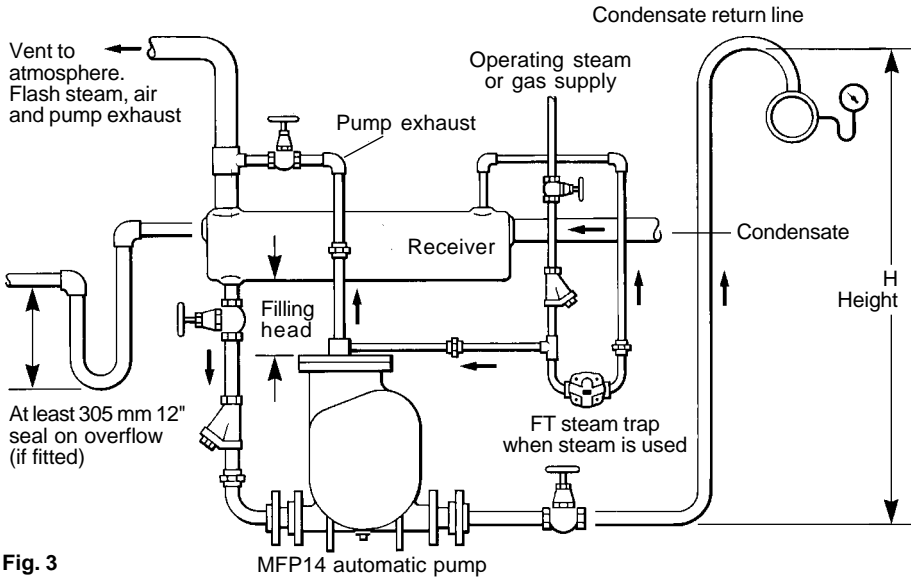

Fig. 3
1. Install the pump below the equipment to be drained with the exhaust connection vertically upwards. Pump should be installed with the recommended filling head (the vertical distance between the top of the pump and the bottom of the reservoir/receiver) as shown in Fig. 3. For other filling head variations, refer to separate capacity chart.
2. To prevent equipment flooding during the pump discharge stroke, a vented receiver or reservoir pipe should be installed in a horizontal plane ahead of the pump as shown in Fig. 3. For proper receiver/reservoir sizing, refer to 'Inlet receiver capacities' table shown on page 7. All inlet line fittings must be full bore.
3. Connect the check valves (12) and (12a) to the pump making sure that the flow through the valves is in the correct direction. For best performance, horizontal piping runs immediately ahead of the inlet check valve and after the discharge check valve should be kept to a minimum. Connect the discharge to the return main or other return point. Torque tighten inlet and outlet flange bolts to 76 - 84 N m (56 - 62 lb/ft)
Sufficient reservoir volume is needed above the filling head level to accept the condensate reaching pump during the discharge stroke. The receiver can be a length of pipe of large diameter or a tank. If desired, receiver overflow piping can be installed as shown in Fig.3 and piped to a suitable drain. The piping must form a U-type water seal at least 305 mm (12 in) deep immediately after the receiver.